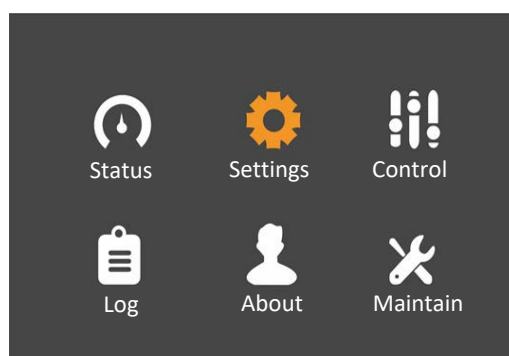

Figure 5-18 Main menu
1. After powering on the UPS, at the main menu screen, press the  or  key to move the cursor to select 'Settings'. See Figure 5-18.